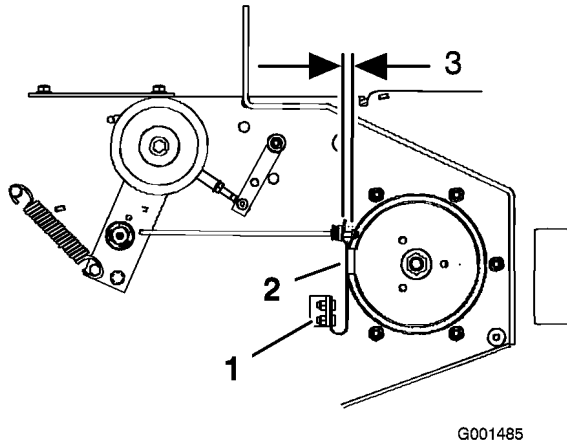

Figure 63
3. If necessary, adjust the spring mounting bolts so that the blade brake pad rubs against both sides of the pulley groove (Figure 63).
- Adjust the nut at the end of the blade brake rod until there is 1/8-3/16 inch (3 mm -5 mm) between the nut and spacer (Figure 63).